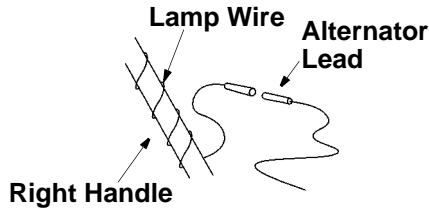

Figure 17
1. Wrap the wire from the lamp down the right handle until the wire can be plugged into the alternator lead wire under the fuel tank. See Figure 17. Be sure lamp wire does not interfere with the movement of any controls or cables.